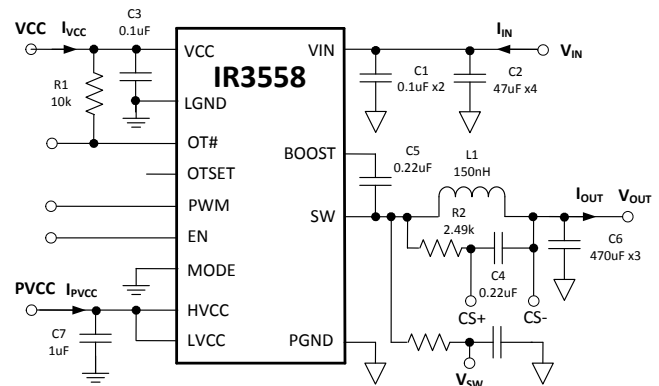

Figure 32: IR3558 Power Loss Measurement
Circuit of Figure 32, $V_{IN}=12V$, $V_{OUT}=1.2V$, $f_{SW}=400kHz$, $L=150nH$ ($0.29m\Omega$), $V_{CC}=5V$, $HV_{CC}=LV_{CC}=7V$, $T_{AMB}=25^{\circ}C$, no heat sink, no air flow, 8-layer PCB board of 3.7" (L) x 2.6" (W), no PWM controller loss, no inductor loss, unless specified otherwise.
Circuit of Figure 32, $V_{IN}=12V$, $V_{OUT}=1.2V$, $f_{SW}=400kHz$, $L=150nH$ (0.29mΩ), $V_{CC}=5V$, $HV_{CC}=LV_{CC}=7V$, $T_{AMB}=25^{\circ}C$, no heat sink, no air flow, 8-layer PCB board of 3.7" (L) x 2.6" (W), no PWM controller loss, no inductor loss, unless specified otherwise.
Circuit of Figure 32, $V_{IN}=12V$, $V_{OUT}=1.2V$, $f_{SW}=400kHz$, $L=150nH$ ($0.29m\Omega$), $V_{CC}=5V$, $HVCC=LVCC=7V$, $T_{AMB}=25^{\circ}C$, no heat sink, no air flow, 8-layer PCB board of 3.7" (L) x 2.6" (W), no PWM controller loss, no inductor loss, unless specified otherwise.
The single-phase IR3558 efficiency and power loss measurement circuit is shown in Figure 32.